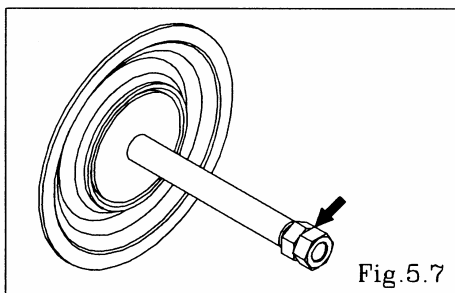

Fig.5.7
- Fix a double nut to one end of the center rod and take the diaphragm and center disk off the opposite end. [Fig.5.7]